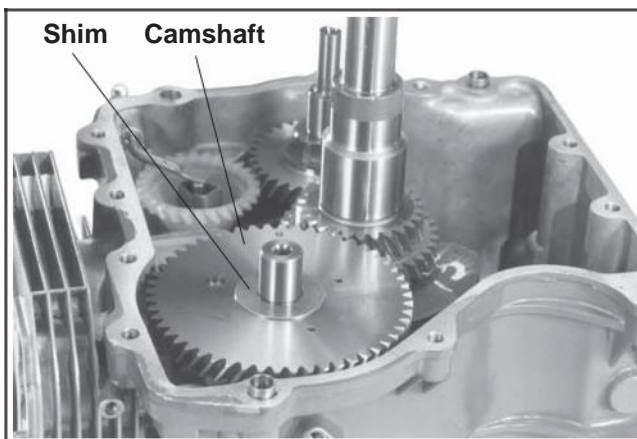

Figure 9-44. Removing Camshaft.
3. Remove the camshaft and shim (not on all models). See Figure 9-44.